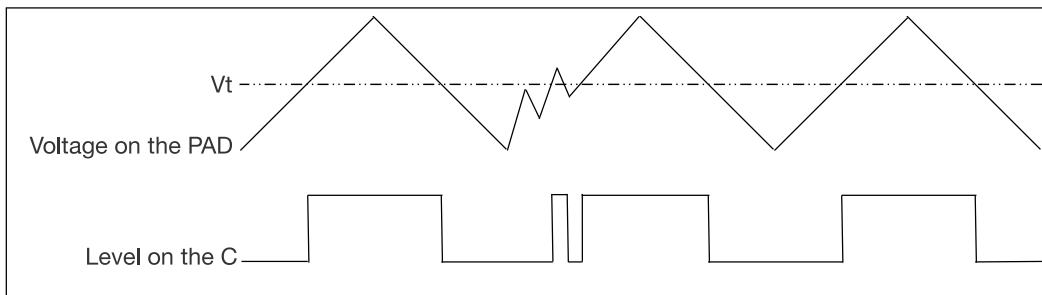

Figure 8.10-1. Example of Level Flip on the Chip Pad — Hysteresis Function Not Enabled
Each GPIO pin has hysteresis functionality. When hysteresis is not enabled, as shown in Figure 8.10-1, the level flip of the signal (C) input to the chip from the PAD has only one threshold (V_t , about 1.7 V). When the voltage on the PAD is higher than V_t , the level on the C is high. Otherwise, it is low. However, noise on the PAD may affect the signal on C.